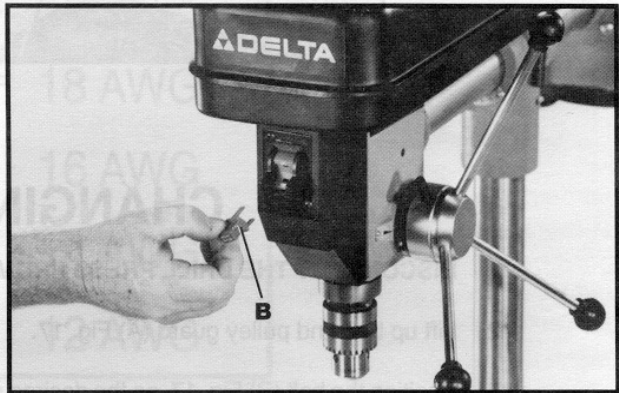

Fig. 19
We suggest that when the drill press is not in use, the switch be locked in the "OFF" position. This can be done by grasping the switch toggle (B) and pulling it out of the switch, as shown in Fig. 19. With the switch toggle (B) Fig. 19, removed, the switch will not operate. However, should the switch toggle be removed while the drill press is operating, the switch can be turned "OFF" once, but cannot be restarted without inserting the switch toggle (B) Fig. 19.